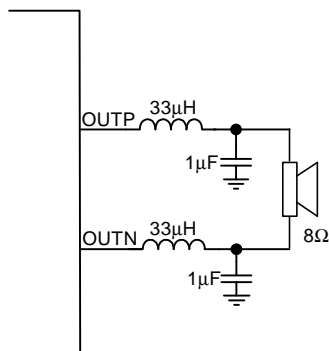
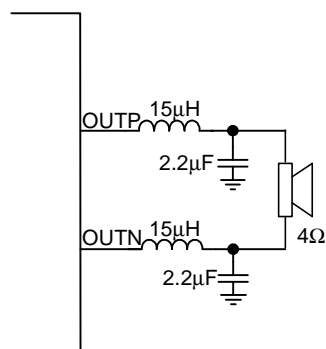

Figure 3. Typical LC Output Filter, Cutoff Frequency of 27 kHz, Speaker Impedance = 8Ω
Figure 4. Typical LC Output Filter, Cutoff Frequency of 27 kHz, Speaker Impedance = 4Ω
Figure 3 and Figure 4 are examples for adding the LC filter (Butterworth), it's recommended for the situation that the trace from amplifier to speaker is too long, and needs to eliminate the radiated emission or EMI.
4. Output filter— The ferrite EMI filter (Figure 3) should be placed as close to the output terminals as possible for the best EMI performance. The LC filter (Figure 4 and Figure 5) should be placed close to the outputs. The capacitors used in both the ferrite and LC filters should be grounded to power ground.